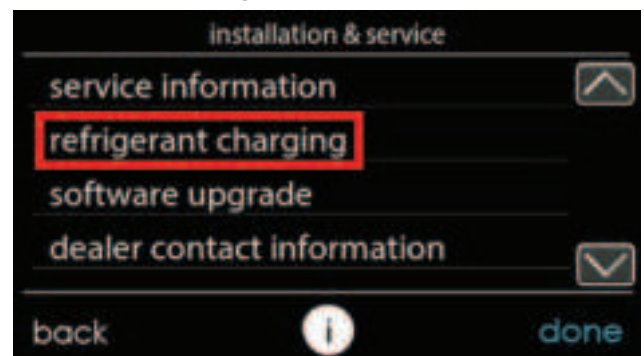
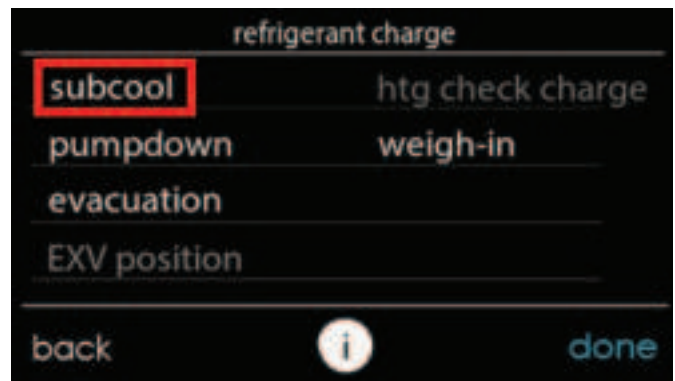

Fig. 12 – Select Refrigerant Charging
Fig. 13 – Select Refrigerant Subcooling
4. Navigate to the service area by pressing MENU from main screen (see Fig. 11). Scroll down to service icon and hold until icon turns green. Once in the "Installation and Service" menu, select "Refrigerant Charging" (see Fig. 12).
5. If the outdoor ambient temperature is between 65°F and 105°F and the indoor temperature is between 65°F and 80°F then select "subcool" (See Fig. 13).
2. In the "installation and service" menu of the UI (see Fig. 11), go to "refrigerant charging" and then "evacuation" (see Fig. 12) and Fig. 13).